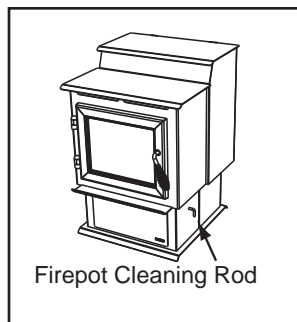
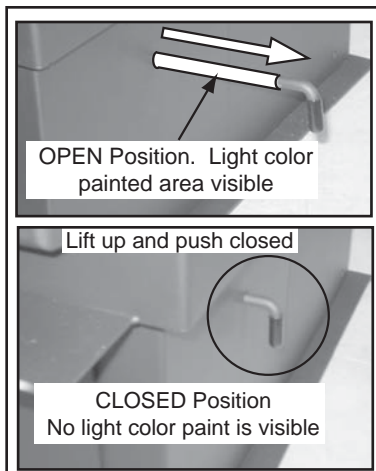

Figure 14.1
Figure 14.2
- b. Locate the firepot cleaning rod on the right side of the appliance. **Figure 14.1.** When you pull the cleaning rod straight out it will slide open the firepot floor to allow the ashes to be deposited in the ash drawer. You will see the light color painted area on the cleaning rod to let you know the rod is in OPEN position. **Figure 14.2.**
- d. To close the firepot floor: **slightly raise the cleaning rod** and then push it back into place. If you have closed the cleaning rod properly (pushed all the way in) you will not see any of the light color painted area. **Figure 14.2.**